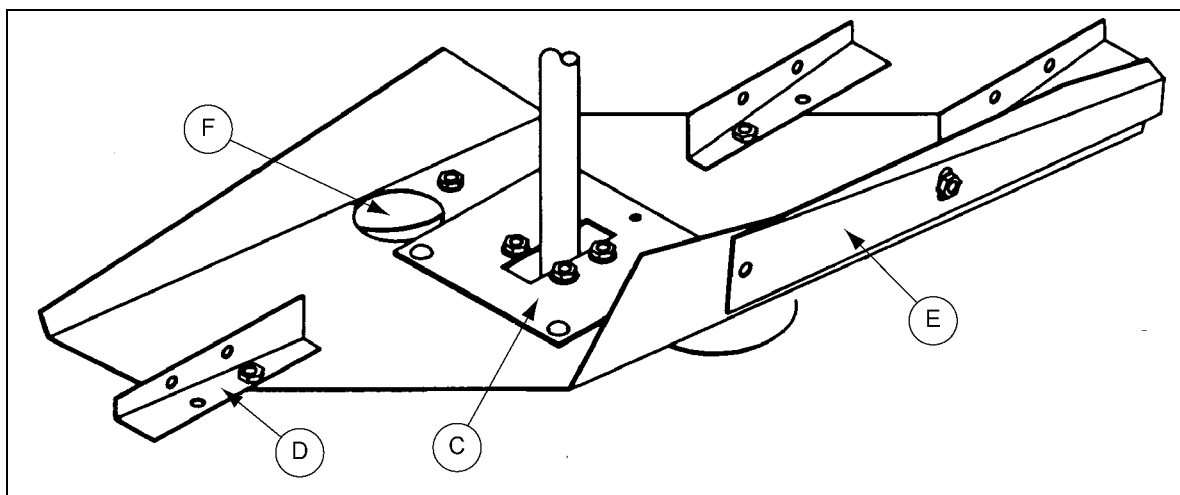

Figure 5B Four (4) features for adjusting the grain flow pattern.
2. Spreader diverters (D) are used to increase or decrease grain flow resistance over spreader blade (C). With the diverters straight (See Figure 5B) the grain will travel further. Angled grain diverters will reduce the throwing distance.
Ref # refers to Figure 5B on Page 20.